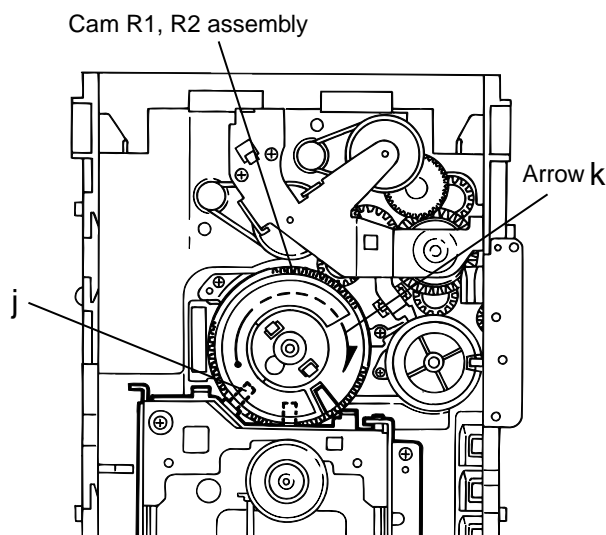

Fig.11
■ Removing the CD mechanism (See Fig.11 and 12)
1. For dismantling only the CD mechanism without removing the CD mechanism assembly, align the shaft "j" of the CD mechanism assembly to the position shown Fig.11 while turning the cam R1 and R2 assembly in the arrow direction "k".